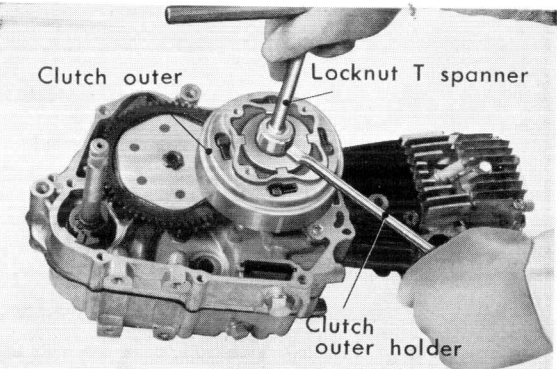

Figure 3-66. Removing clutch unit
- (1) Remove right crankcase cover.
- (2) Remove clutch outer cover.
- (3) Unlock the 14mm lock washer, remove the 14mm lock nut and the clutch can be removed as a complete unit.
- (4) The work of disassembling the clutch unit can be simplified by the use of special tools. (Fig. 3.66)